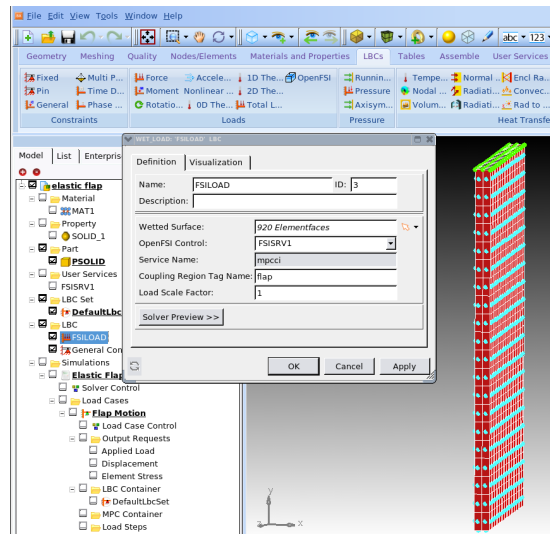

Figure 3: OpenFSI Loads Definition under SimXpert.
3. Define OpenFSI Boundary conditions (Figure 3).